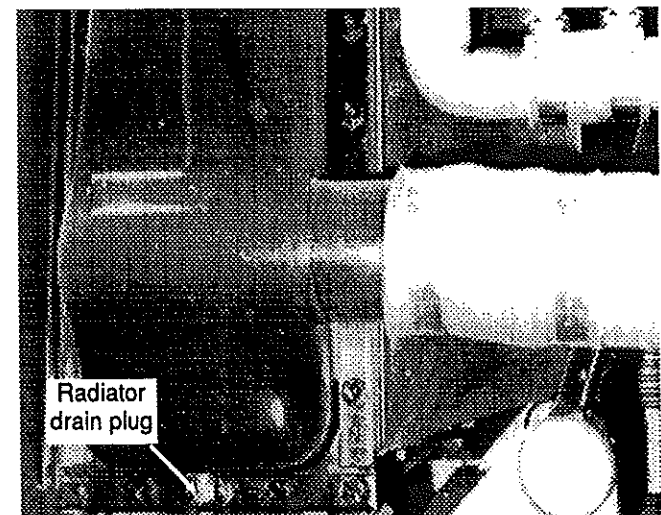

Fig. 9
7. Remove radiator drain plug (see fig. 9).